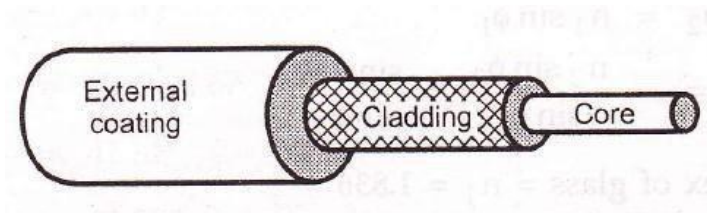

Fig.1.6.6.
- A single fiber structure is shown in Fig. 1.6.6. It consists of a solid dielectric cylinder with radius 'a'. This cylinder is called as **core** of